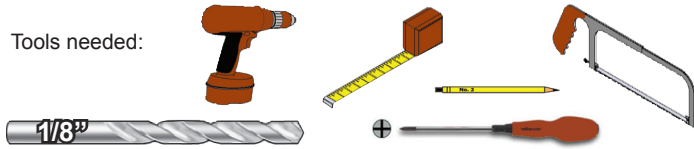

Figure 6
2. Right Hinged (Figure 6) - From the exterior, a right hinged storm door will have the hinge rail on the right side of the storm door. Refer to the illustrations in the column on the right side of the installation guide under this heading: